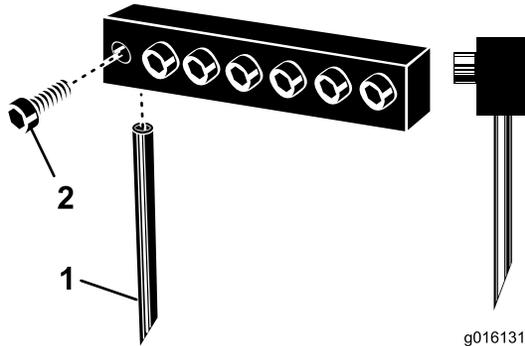

Figure 27
3. Loosen the clamping bolts and remove the previously used tines (Figure 27).
Note: Hollow coring tines should be positioned with the ejection slot to the rear while the solid tines should have the tine tip angle facing the machine (Figure 27).